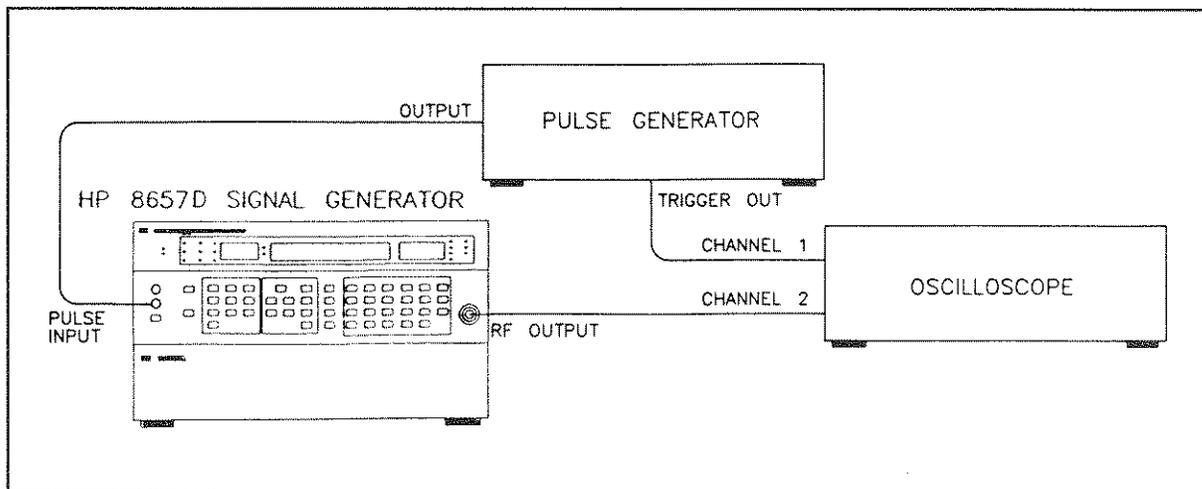

Figure 4-10. Modulation Test Setup
30. Connect the equipment as shown in Figure 4-10.